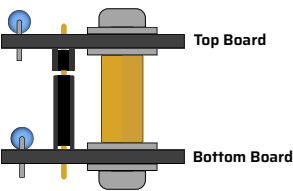

Figure 1: Board Mounting
The top and bottom boards are electrically connected through socketed pin headers. The bottom board requires five (5) 2.54mm pitched single-row female 4-pin headers (minimum height 8.5mm). The top board requires five (5) 2.54mm pitched single-row male 4-pin headers. See Figure 1 for placement guide.
The top and bottom boards are electrically connected through socketed pin headers, but mechanically secured together using a fastener. The assembly stack is as follows (listed from bottom to top): M3 machine screw, M3 washer, bottom board, M3 washer, M3 spacer, M3 washer, top board, M3 washer, M3 machine screw. See Figure 1 for an assembly order example.